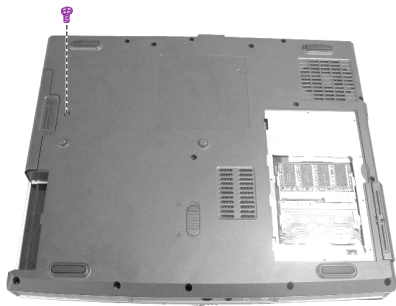

Figure 2-12 Remove one screws to loose the CD/DVD-ROM drive
2. Carefully put the notebook upside down. Then remove one screw the CD/DVD-ROM drive. (Figure 2-12)